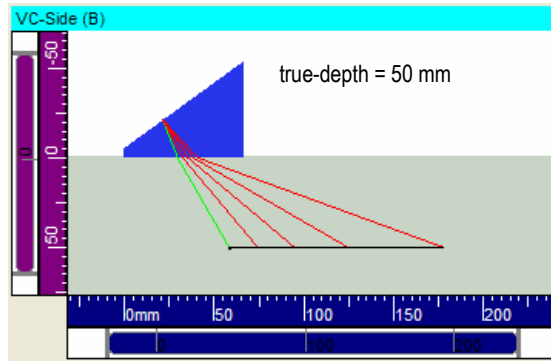

Figure 4-24 True depth focalization
- **True depth:** all beams are focused at a constant true-depth value (see Figure 4-24 on page 58). For cylindrical part, the true-depth value is defined as the depth in the cylindrical geometry.